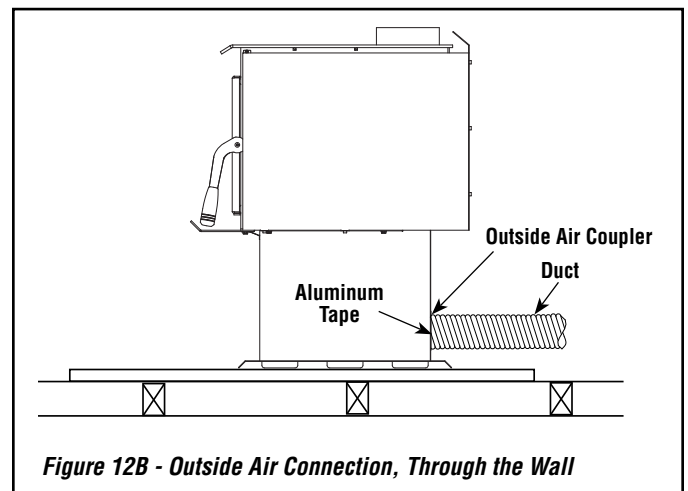

Figure 12B - Outside Air Connection, Through the Wall
- The air intake register must not be installed more than ten (10) feet (3050 mm) above the base of the stove.
- Make a 4-1/4" (110 mm) hole in the outside wall of the house at the chosen location. From outside, place the outside air register in the hole (open side down) and fasten the register to the wall, with screws as shown (*see Figures 12B and 13*).